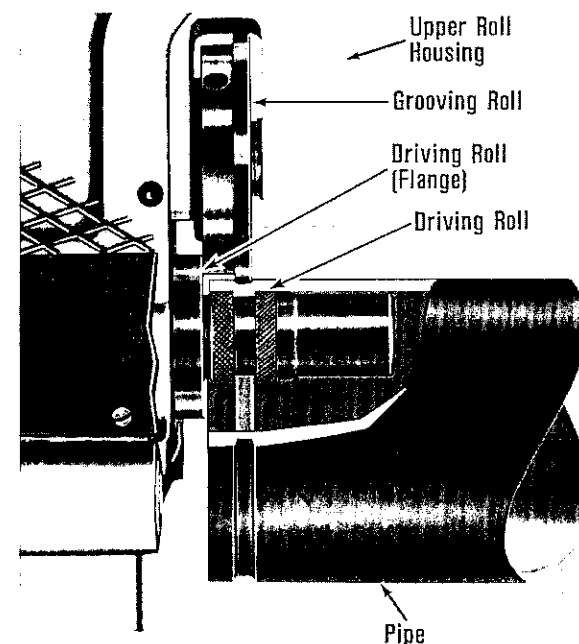

Figure 22. Installing Pipe on Drive Roll
3. Square pipe and Pipe Stand to Roll Groover making sure pipe is flush against Drive Roll Flange (Figure 22).